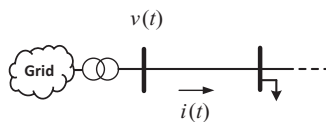

Figure 1.14 The power distribution feeder in Exercise 1.3.
- 1.3** Consider a portion of a power distribution system as shown in Figure 1.14, where $v(t) = 7200\sqrt{2}\cos(\omega t)$ and $i(t) = 50\sqrt{2}\cos(\omega t) + 28\sqrt{2}\cos(3\omega t)$.